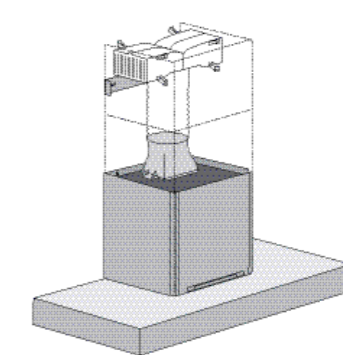

Fig. 9
- Recirculating mode** (Fig. 9). Using the centre line, secure the recirculating T-piece to the wall with suitable screws/fixings (optional kit AR910RK). Install flexible pipe between T-piece and the exhaust transition duct. Use cable ties or suitable duct tape to secure flexible pipe to T-piece and transition duct (Fig. 11).